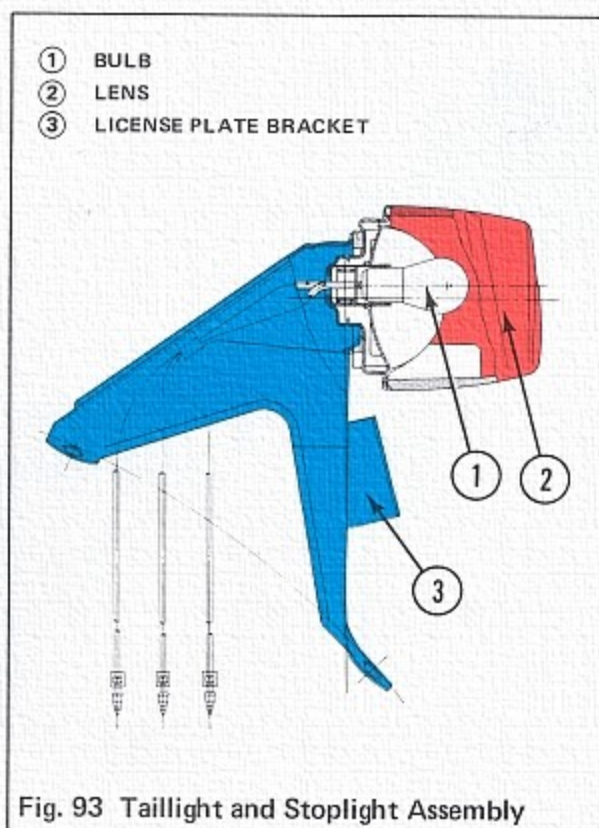

Fig. 93 Taillight and Stoplight Assembly
The taillight on motorcycles intended for street use contains a two-filament bulb (1) (Fig. 93). One filament is wired in parallel with the headlight. The other filament is connected to a switch that completes its circuit when the brakes are applied.